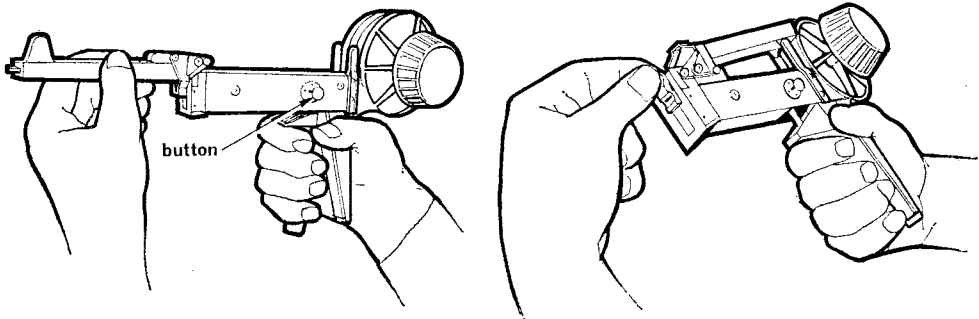

Fig 36
a. A normal closure is loaded into the head of the binding tool as shown in figure 36. Hold in the button, hold in the trigger and release the button. Swing over the magazine, release the trigger and swing back the magazine. If a single lug closure is to be used, it should be pressed into the head of the tool whilst the trigger is squeezed.